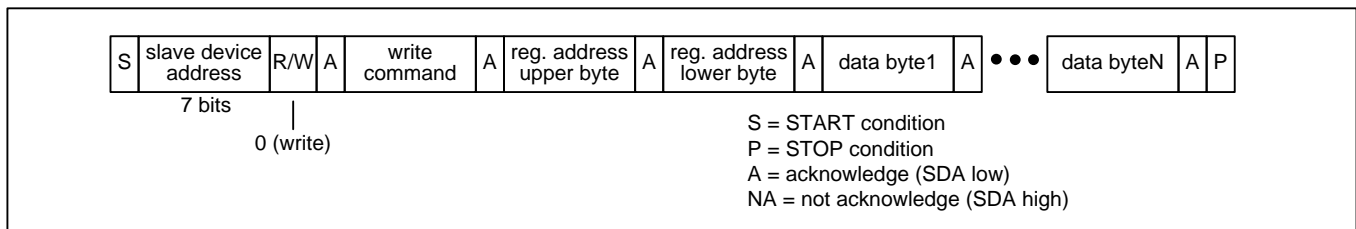

Figure 16 – I²C Register Write Transaction Functional Timing
Register Write Transactions. The device registers are accessible when `EESEL=0`. The bus master does an I²C write to the device. The first three bytes of this transaction are the SPI Write command (see Table 4), the upper byte of the register address, and the lower byte of the register address. Subsequent bytes are data bytes to be written. After each data byte is received, the device writes the byte to the write address and then increments the write address. The bus master terminates the write with a STOP condition (P). See Figure 16.